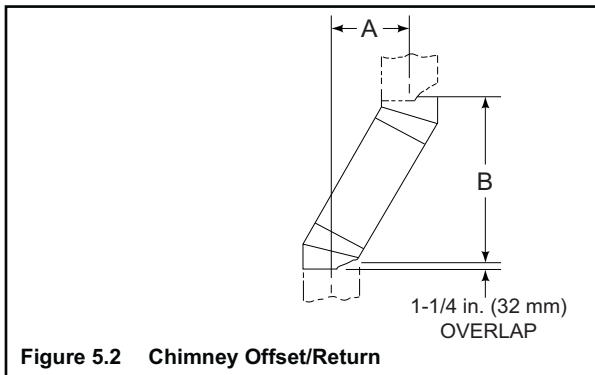

Figure 5.2 Chimney Offset/Return
- Measure the shift needed to avoid the overhead obstruction. Refer to dimension A in Figure 5.2.
Your “A” dimension from Figure 5.2 is 14-1/2 in. (368 mm). Using Table 5.3 the dimension closest to, but not less than 14-1/2 in. (368 mm) is 14-1/2 in. (368 mm) using a 30° offset/return.